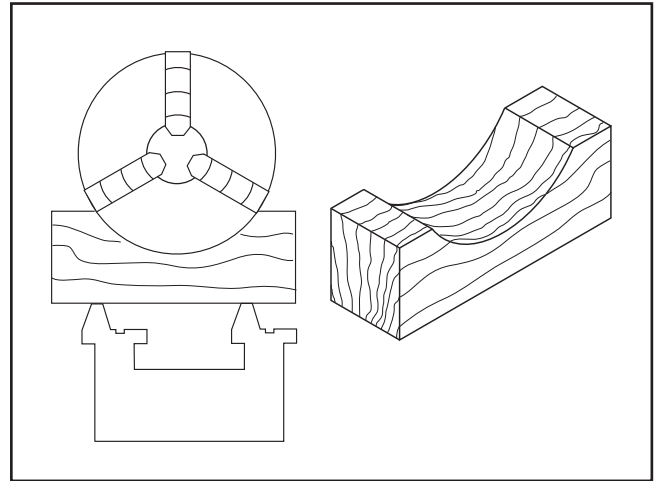

Figure 20. Simple chuck cradle made of scrap lumber.
2. Lay a chuck cradle (see **Figure 20**) or a layer of plywood over the bedways to protect the precision ground surfaces from damage and to prevent fingers from being pinched.
- Lay a chuck cradle or a layer of plywood over the bedways to protect the precision ground surfaces from damage and to prevent fingers from being pinched (see **Figure 20**).